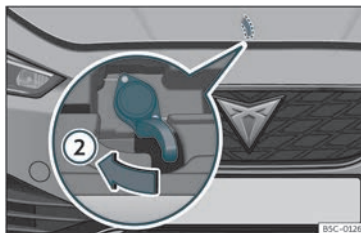

Fig. 213 Lever under the bonnet.
- To lift the bonnet, press towards the left on the lever located under the bonnet, in the centre» Fig. 213 ②. The arrester hooks are released.